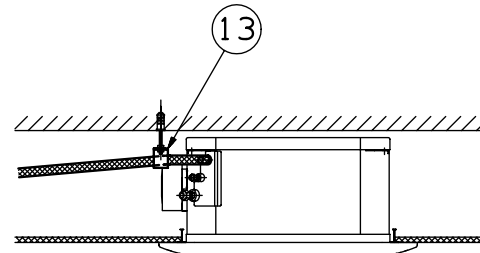

Fig. 3-6
- Do not apply force to the piping on the unit side when connecting the drain pipe. The pipe should not be allowed to hang unsupported from its connection to the unit. Fasten the pipe to a wall, frame, or other support ⑬ as close to the unit as possible. (fig. 3-6)